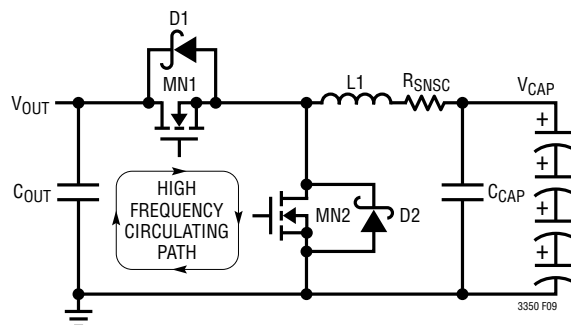

Figure 9. High Speed Switching Path
1. Keep MN1, MN2, D1, D2 and C_{OUT} close together. The high di/dt loop formed by the MOSFETs, Schottky diodes and the V_{OUT} capacitance, shown in Figure 9, should have short, wide traces to minimize high frequency noise and voltage stress from inductive ringing. Surface mount components are preferred to reduce parasitic inductances from component leads.